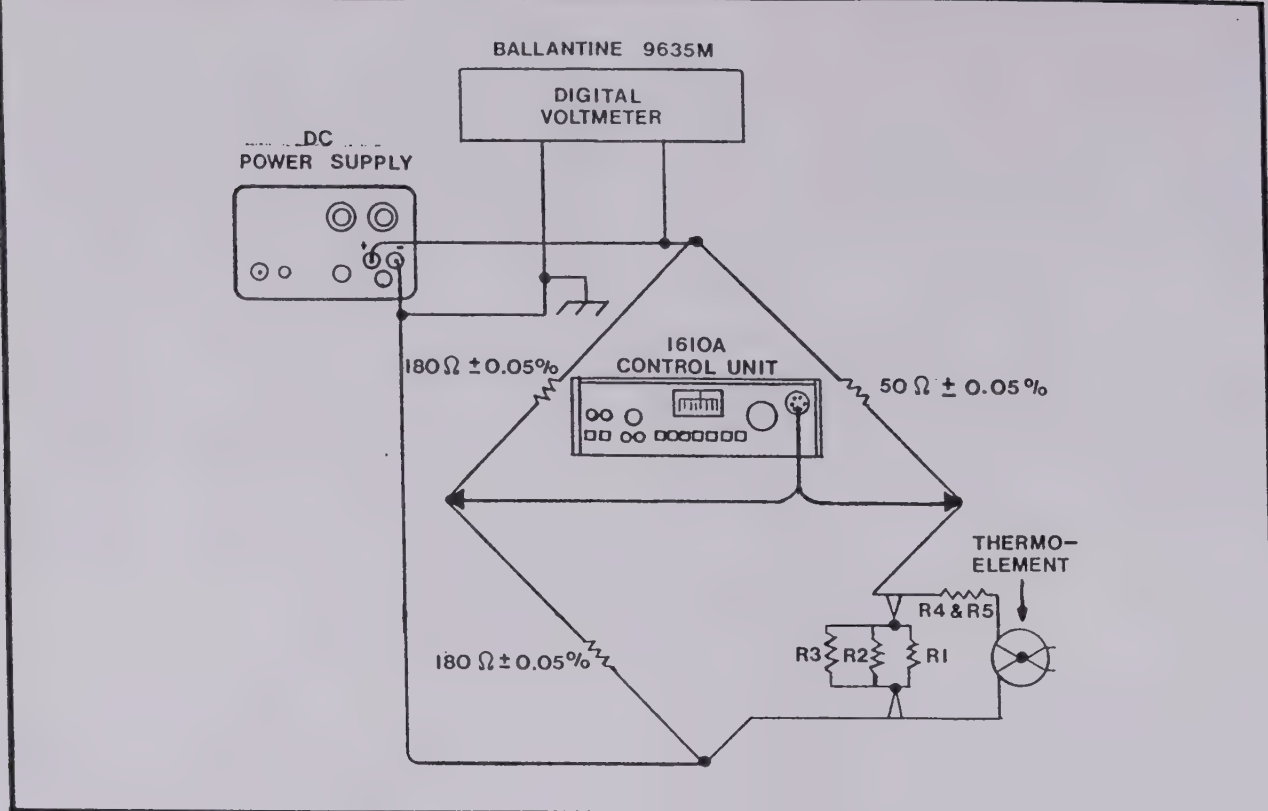

Figure 5-2. Calibration of Input Resistance
A bridge for adjusting 1395 input resistance is shown in figure 5-2. Schematics for the 1395A-1, 3, and 6 with input resistance trim potentiometers are shown in figures 2-2b, 2-3b, and 2-4b respec-
A bridge for selecting R3 is shown in figure 5-2. With the dc power supply drive voltage set so that the thermoelement operates at approximately its
a. Set the power supply to off, and construct the bridge as shown in figure 5-2.
b. Connect an initial value of R3 as shown in figure 5-2. For Model 1395A-6 and 1395A-3 use two 113 Ω resistors in parallel and a selected value approximately 1.82 k Ω ; 1395A-1 use a 140 Ω and a 133 Ω resistor in parallel and a selected value of approximately 47 k Ω ; for 1395A-0.4 use a 122 Ω and a 249 Ω resistor plus a selected resistor value of approximately 2.7 k Ω .